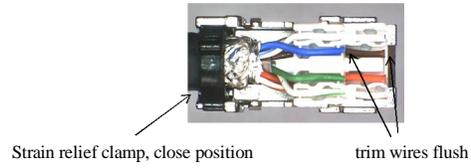

Figure 8
- 9) Engage shield contact by pressing down on shield contact slide with a flat head screw driver (Fig. 8). Ensure shield contact is engaged by making sure shield contact is in contact with the cable.